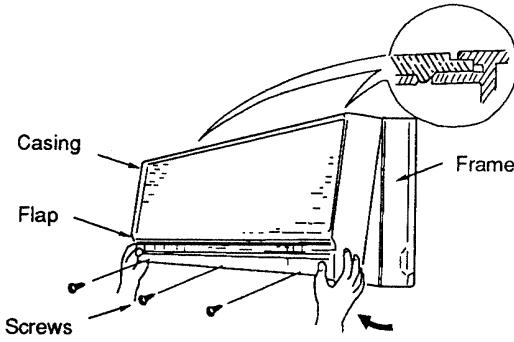

Fig. 1d
- d) Set the flap in the horizontal position. (Fig. 1d)
- e) Remove the 3 screws. (Fig. 1d)
- f) Remove the casing. (Fig. 1d)